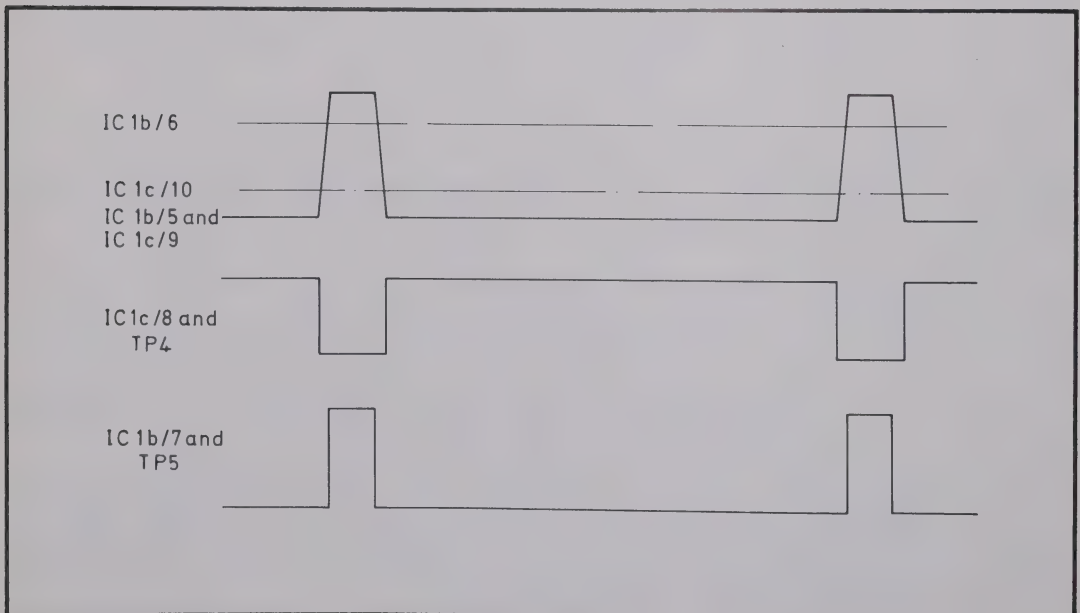

Fig. 5.6 Comparator Waveforms
- 5.3.2.7.3 The edges of the pulses are slowed down by the low-pass filter, R37/C17. A resistor chain, formed by elements of R36 and R37, holds IC1b/6 more positive than IC1c/10, so the comparators are not triggered simultaneously. Idealised waveforms are shown in Fig. 5.6.